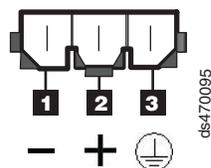

Figure 86. DC power supply connector - PIN positions
2. Connect the DC power cable to the power supply. See Figure 86 for the DC power supply connector PIN positions.